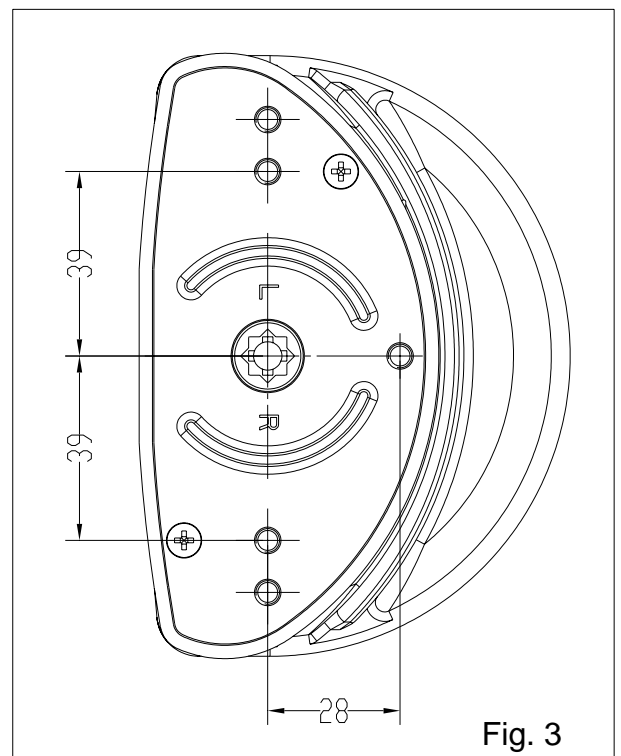

Fig. 3
1. Ensuring the Follower centreline of External Locking Attachment is aligned with Follower centreline of the internal device, drill 3 x 6mm diameter holes for fixing bolts and 1 hole for spindle. The spindle hole size can vary depending upon device used. **See Fig. 3** for guidance. All measurements are in mm. **Note: Fig. 3 is not a template.**